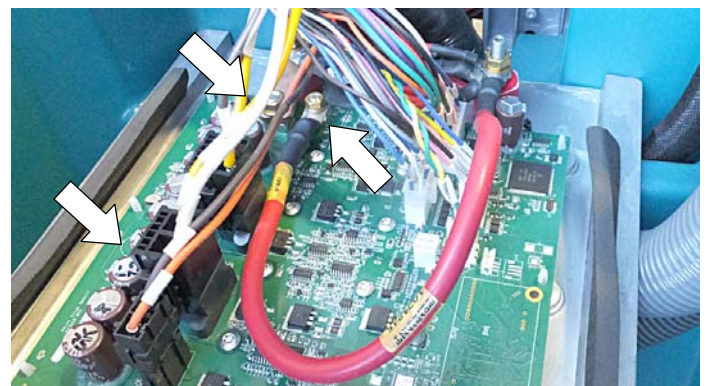

Fig. 4
6. Disconnect seven wire connectors, bus-bar and red cable from defective control board (Figure 4).